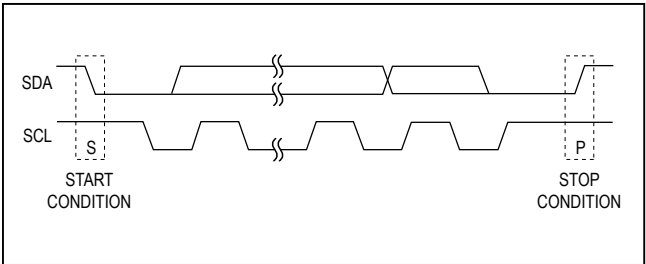

Figure 7. START and STOP Conditions
Both SCL and SDA remain high when the interface is not busy. A master signals the beginning of a transmission with a START (S) condition by transitioning SDA from high to low while SCL is high (Figure 7). When the master has finished communicating with the slave, it issues a STOP (P) condition by transitioning SDA from low to high while SCL is high. The bus is then free for another transmission.